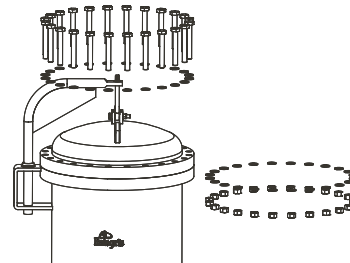

Figure 24.
1. Remove the bolts/studs, nuts, and washers from top of housing flange with appropriately sized wrench, Figure 24.